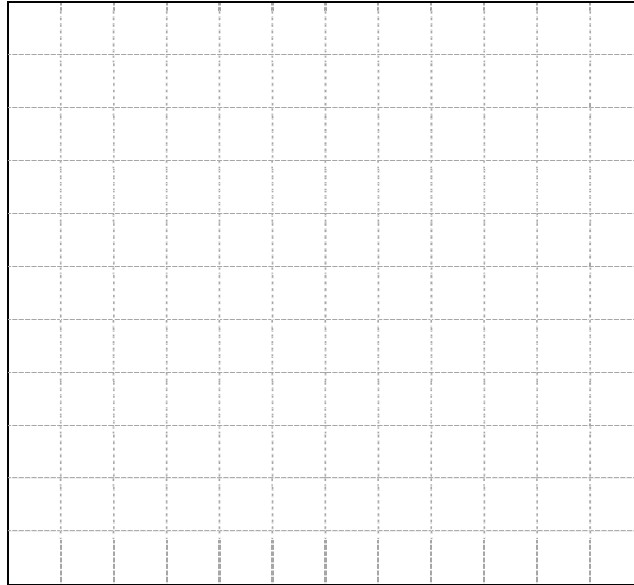

Figure 1-14. Linear and S-shape acceleration patterns.
18. Plot the curves showing the linear and S-shape acceleration patterns in Figure 1-14. Place the Time values along the X-axis, and the Frequency values along the Y-axis.